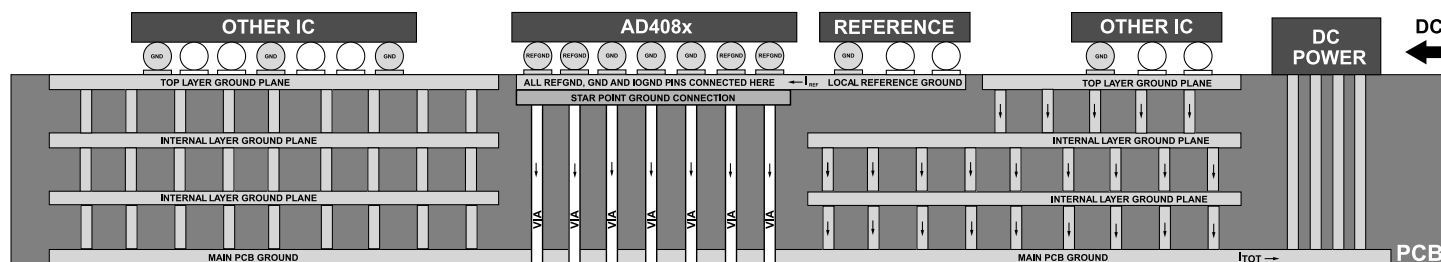

Figure 109. Recommended PCB Ground Planes Layout
- ▶ See Figure 109 for the side view cross-section of the PCB board showing the ground planes distribution. Note that Figure 109 only shows the ground planes but does not including the signal tracks.